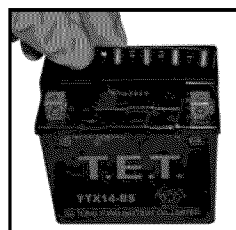

Figure 23
- After 30 minutes the battery is ready for its initial charge. Place cap strip loosely over the filling holes as shown in the picture. (see figure 23)